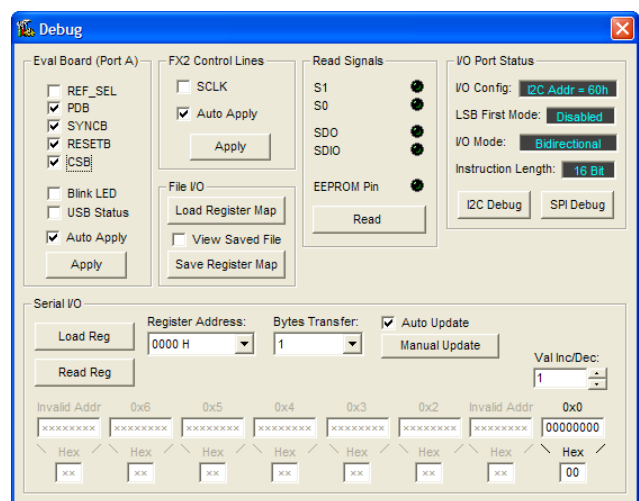
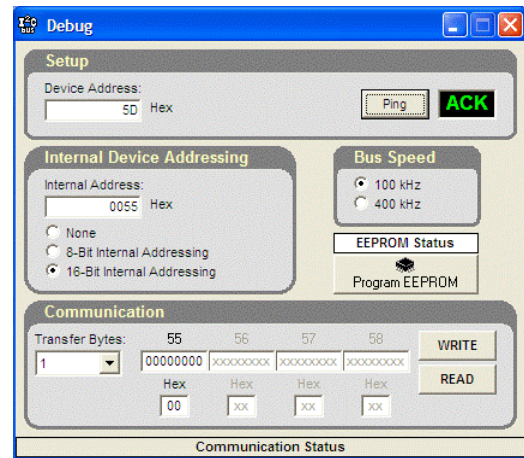

Figure 9. Debug Window
Figure 28. Evaluation Software I²C Debug Window
The **Debug** window, accessed by selecting **Debug Window** from the **View** menu, allows you to write and read registers directly and to force the various configuration pins high or low (see Figure 9).
7. From the **View** menu on the menu bar, select **Debug Window**. From the **Debug** window (see Figure 9), click the **I²C Debug** button under the I/O Port Status section. The window shown in Figure 28 appears.
8. Enter the I²C address set by Jumper P5 and Jumper P6 on the AD9523-1 evaluation board, and click **Ping**. The user should see a green **ACK** message as shown in Figure 28. Repeat this step for the I²C address of the target AD9523-1. If **ACK** is returned for both addresses, the remote AD9523-1 is ready to be programmed. If the ping test fails, double-check the cabling between the boards, as well as the I²C address of the target AD9523-1. Ensure that the I²C address of the AD9523-1 on the evaluation board is different from the target AD9523-1. Also, disconnect the jumper cable, and make sure that I²C mode is working properly on the AD9523-1 evaluation board.